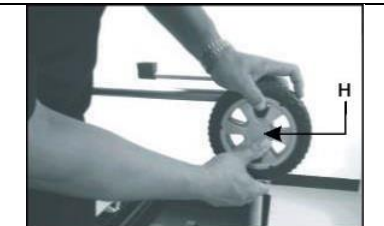

Fig. 3e
Finally, place the wheel cover (H) in the center of the wheel. (Fig. 3E)